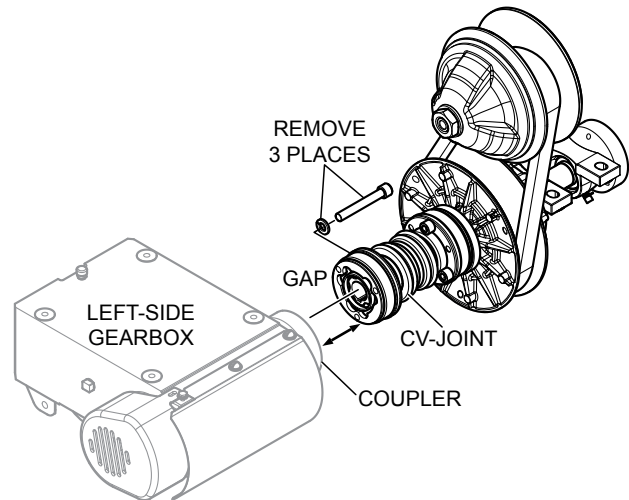

Figure 33. CV-Joint Removal
secure the CV-joint (Figure 33) to the left-side gearbox. Retain mounting hardware for later use.
3. Once the CV-joint has been separated from the left-side gearbox coupler, push the CV-joint inward so that a gap (Figure 33) exists between the gearbox coupler and CV-joint.